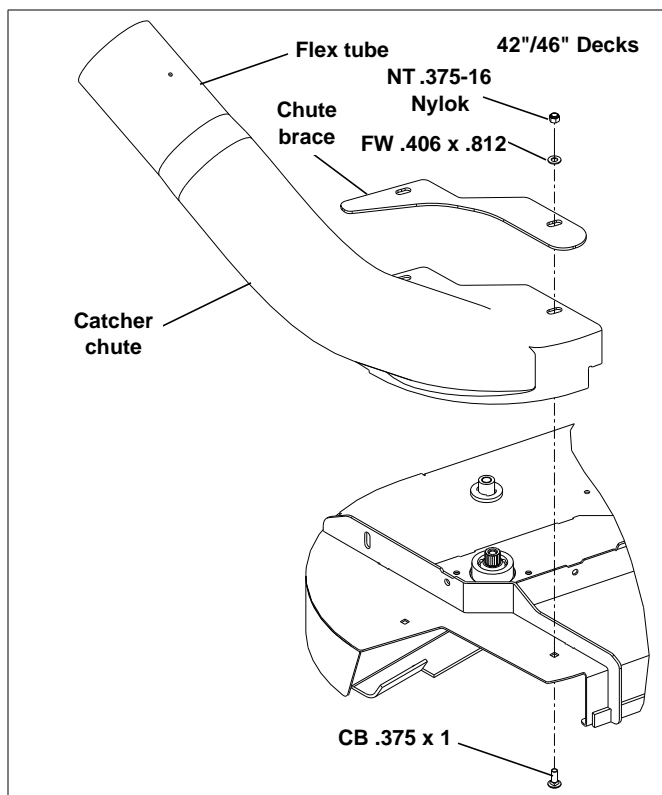

Figure 3-3
5. **42\"/>46\" Decks:** Attach the catcher chute and chute plate to deck. Tighten all hardware. Figure 3-3